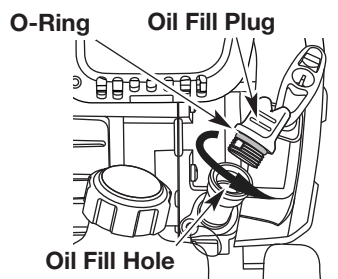
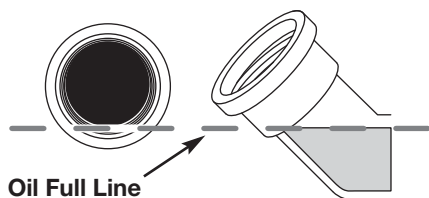

Fig. 10
Fig. 12
2. Remove the oil fill plug from the crankcase (Fig. 10).
3. Look into the oil fill hole (Fig. 10). If the oil level comes up to the first thread, then the oil is full (Fig. 12). If it does not, fill with oil until it does.